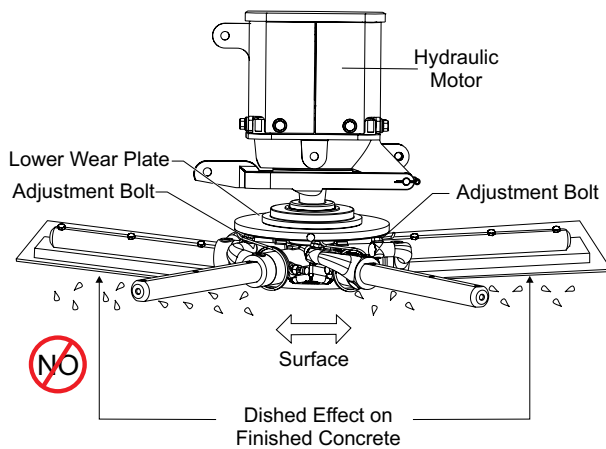

Figure 34. Incorrect Spider Plate Alignment
4. Figure 34 illustrates, "incorrect alignment", worn spider bushings or bent trowel arms. Check that the adjustment bolt is barely touching (0.10" max. clearance) lower wear plate. All alignment bolts should be spaced the same distance from the lower wear plate.